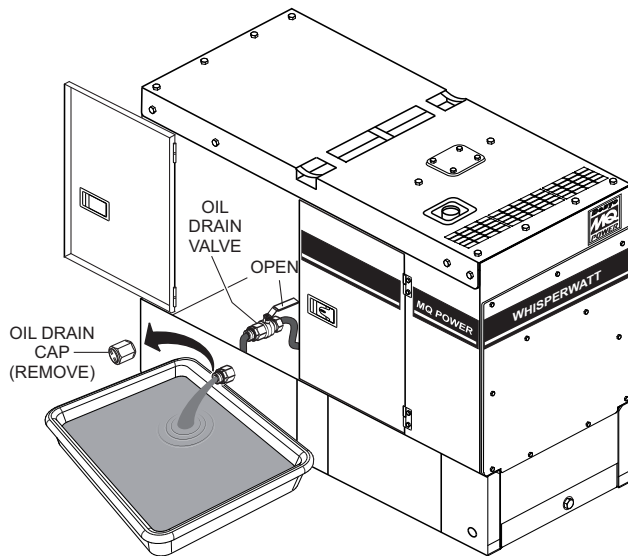

Figure 69. Draining The Engine Oil
4. Remove the **oil drain cap** (Figure 69).
5. Place the **oil drain valve** in the open position (Figure 69) and allow the oil to drain into a suitable container.